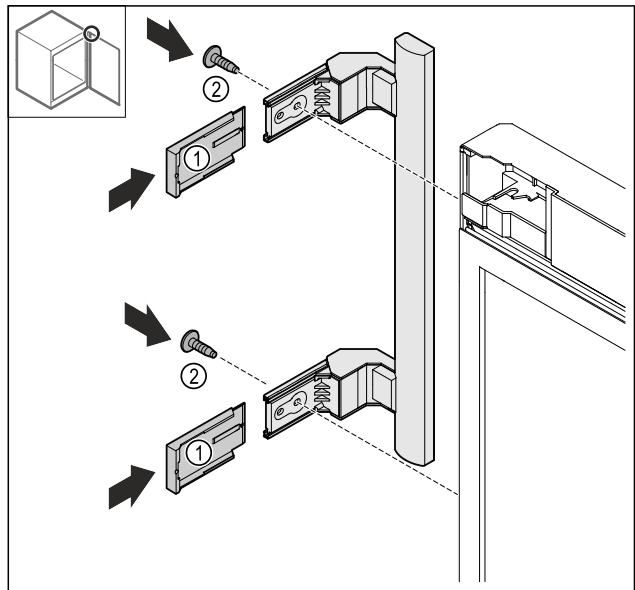

Fig. 26
- Push the covers Fig. 26 (1) on.